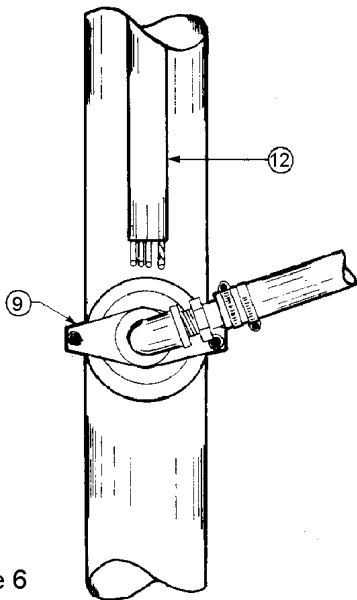

Figure 6
6. Tighten a 90° street elbow onto the saddle fitting until the fitting is pointing 20° upward in the direction of the discharge pipe. Connect the discharge pipe as shown in Figure 6.